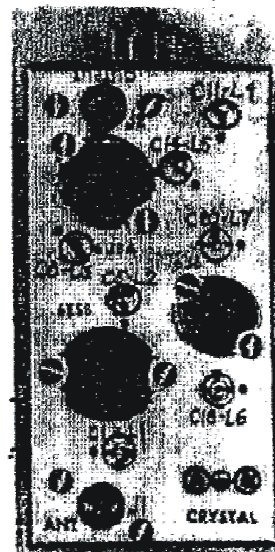

Fig. 2 - Top view
3. Turn C18 (see fig. 2) ALL the way up (counterclockwise). Then adjust C18 for maximum reading on the voltmeter. If C18 is properly adjusted, another turn or two clockwise beyond the correct point will cause the voltmeter reading to drop to a very low value. A simple method of checking to see whether the oscillator is functioning properly is to remove the crystal from its socket several times. Each time the crystal is put back in its socket, the voltage should IMMEDIATELY rise to maximum. If this does not occur, the trimmer should be turned slightly (counterclockwise) until the voltage does rise IMMEDIATELY to maximum when the crystal is put into its socket. The maximum DC voltage reading across the crystal should be over 5 volts on a vacuum tube voltmeter.